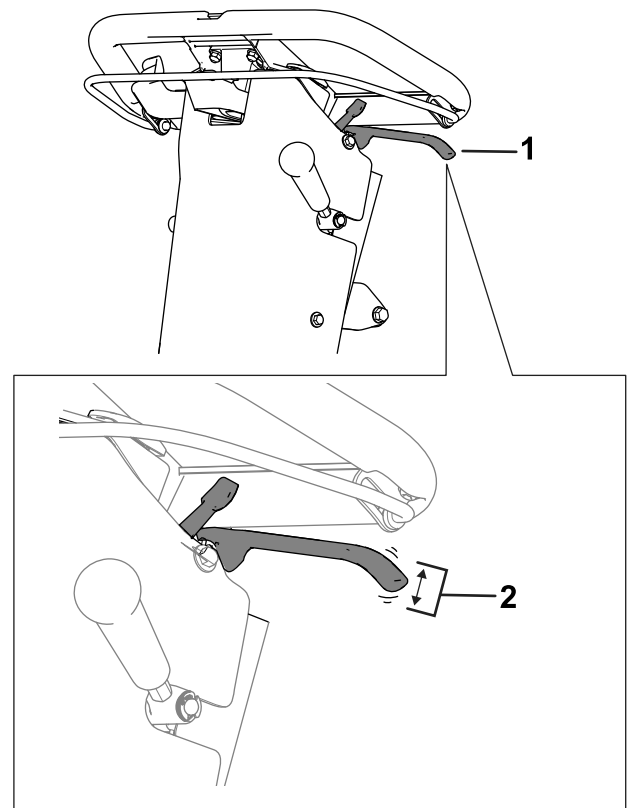

Figure 31
2. Measure the free play at the end of the parking-brake handle (Figure 31).